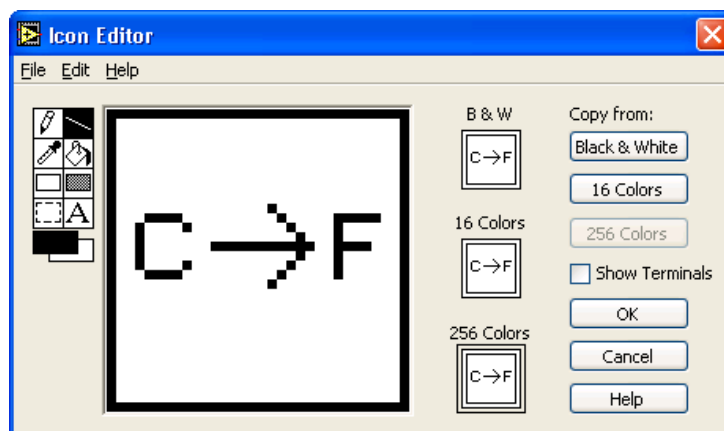

Figure 3.7
5. Create the icon in Figure 3.7.